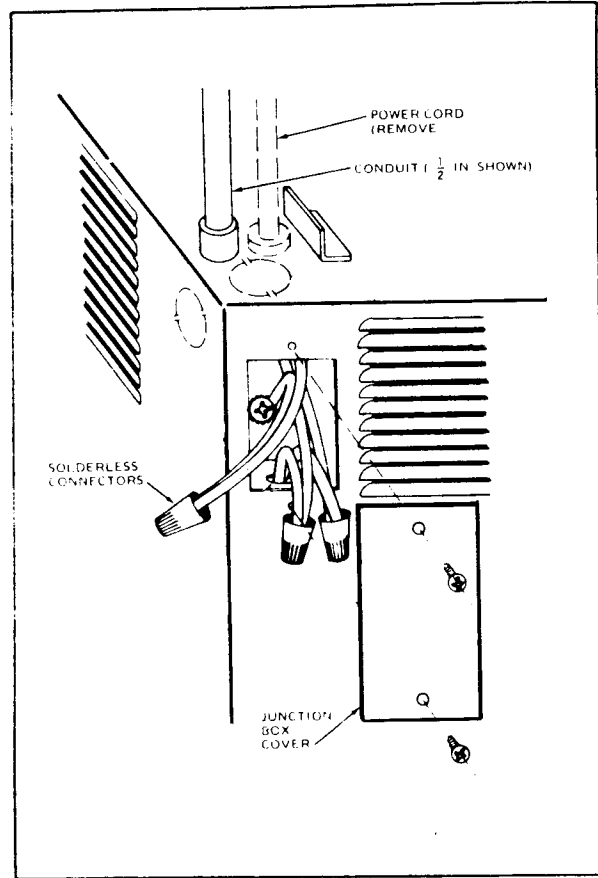

FIG. 7—REMOVE THE JUNCTION BOX COVER TO GAIN ACCESS TO THE POWER SUPPLY CONNECTIONS.
To permanently wire the C-12 follow these instructions exactly. All wiring must comply with applicable codes and ordinances. Wire the C-12 using the built-in junction box as indicated in fig. 7. The power source must be 120 volt, 60 Hz.
1. Open C-12 junction box cover (Fig.7).